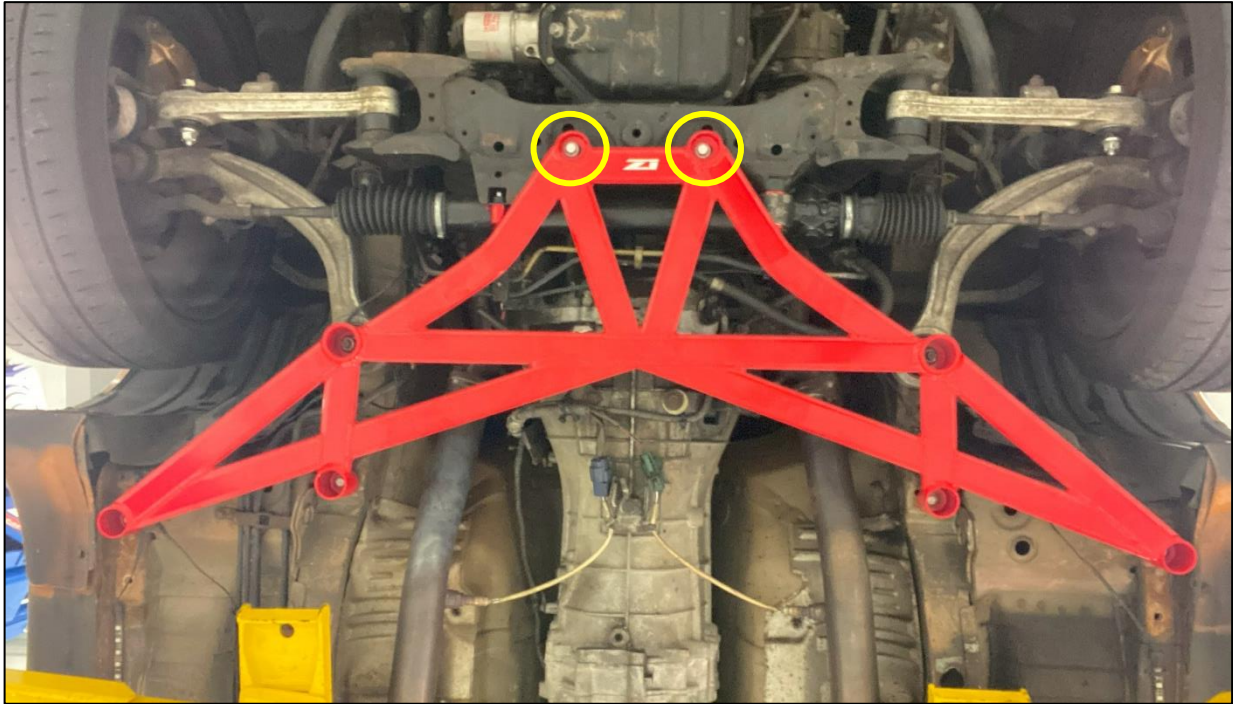

Figure 7
6. Locate (2) two M8 x 1.25 Hex Head Screws, and (2) two M8 Washers. Install (1) one Hex Head Screw with a Washer through the W-Brace and into the Rivnuts installed in Step 4. Figure 7.